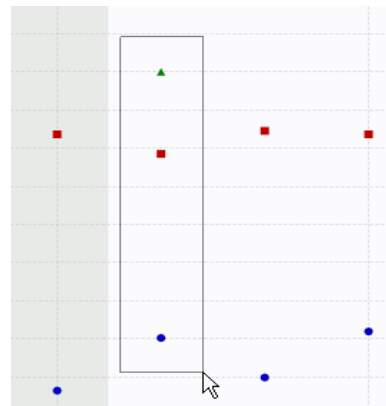

Figure 4.32 Zooming in on a Particular Sample – Method 1
1. Click and drag the cursor to draw a box around the sample (Figure 4.32.)